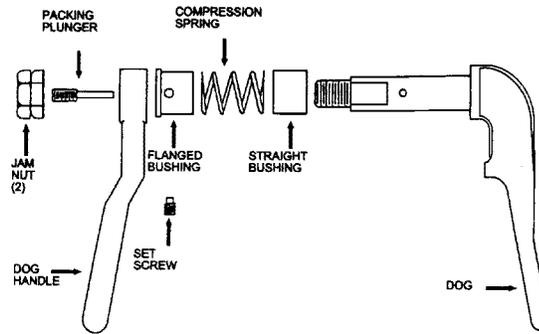
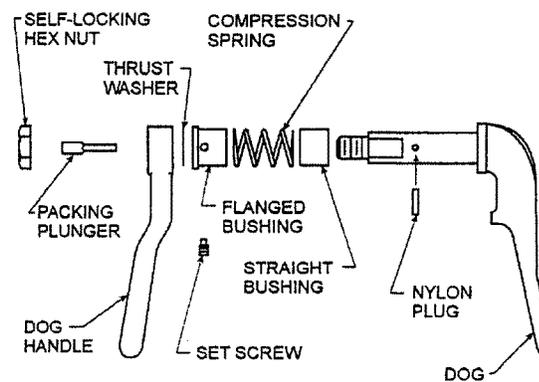

Figure 3-15. Individual Dog Assembly
Figure 3-15A. Individual Dog Assembly with Self-Lubricating Bushings
- a. Remove the self-locking hex nut (or two jamnuts) and the dog handle from the outside of the door. Remove the dog from the inside of the door. See figure 3-15 and figure 3-15A.